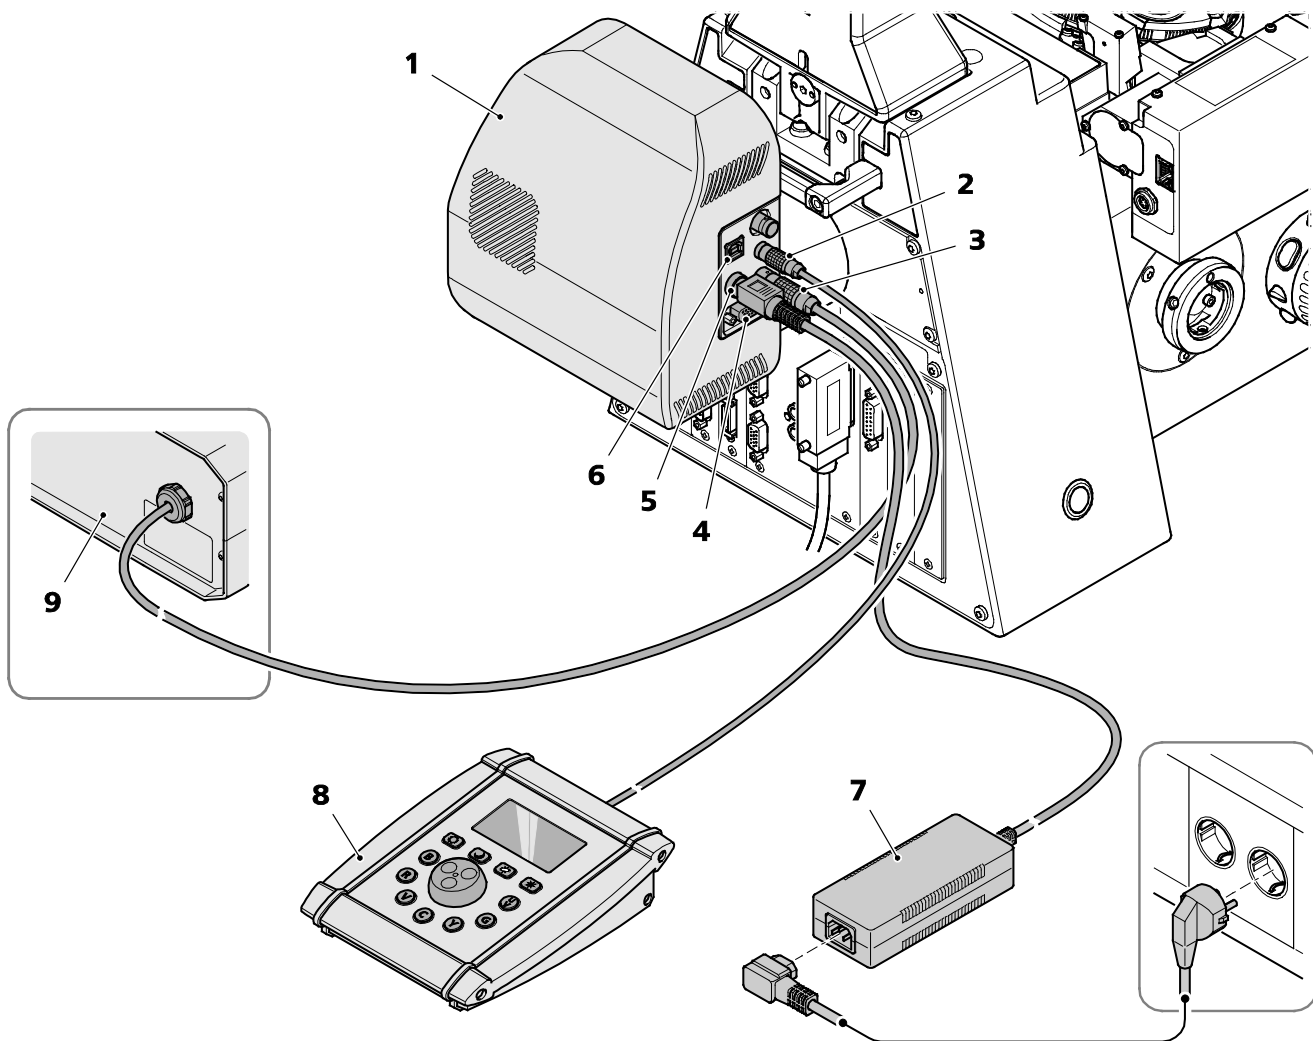

Fig. 10 Connecting the lamp module and components
- Connect the connection cable of the desktop power supply unit (Fig. 10/7) to the **Power** connection socket (Fig. 10/5) of the lamp module (Fig. 10/1).
- If used, connect the control panel (Fig. 10/8) with connecting cable to the **Remote** connection socket (Fig. 10/2) of the lamp module.
- If used, connect the LED Trigger Box (Fig. 10/9) with connecting cable to the **Breakout** connection socket (Fig. 10/3) of the lamp module.
- If the microscope has a TFT display, connect the **CAN** connection socket (Fig. 10/4) of the lamp module via the CAN cable to the microscope stand.
- If Colibri 7 is to be controlled via a third-party software on the PC, connect the **USB** connection socket (Fig. 10/6) of the lamp module via USB cable to the PC.
- Connect the Colibri 7 desktop power supply unit (Fig. 10/7) with a power supply cable to a power outlet.